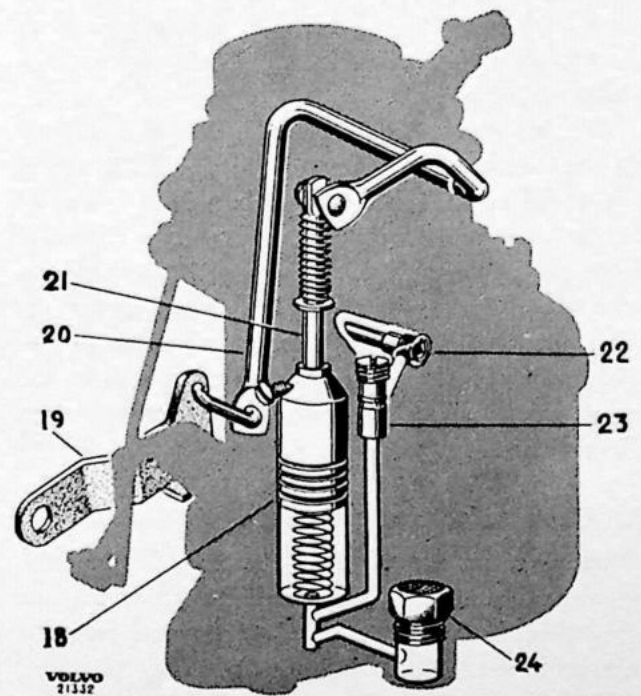

Fig. 19. Accelerator pump system.
The accelerator pump (Fig. 19), features a plunger (18) with piston rod (21) which is operated from the throttle lever (19) by a connector rod (20). Fuel is drawn into the pump cylinder through inlet valve (24) during the upward movement of the plunger.